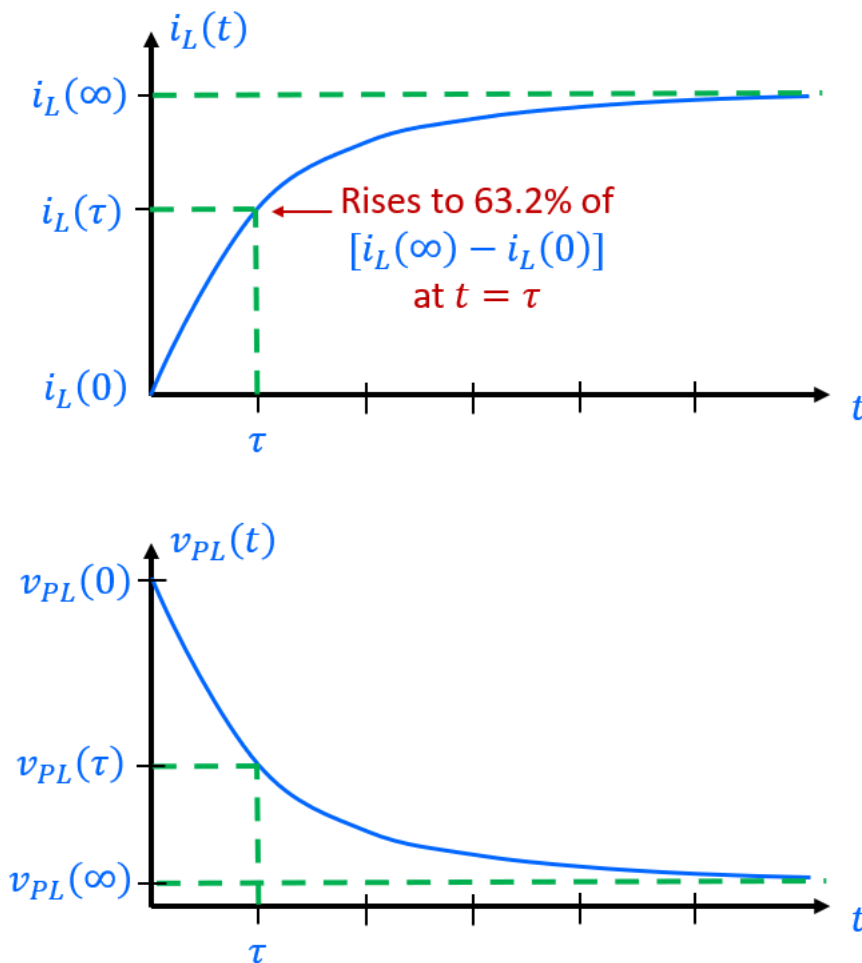

Figure 2: current $i_L(t)$ and practical inductor's voltage $v_{PL}(t)$ w.r.t. time t .
- Figure 2 below shows how the current $i_L(t)$ and the practical inductor's voltage $v_{PL}(t)$ change w.r.t. time for $t \geq 0$. Show that $v_{PL}(\tau) = V_S - R \frac{0.632 V_S}{R + R_L}$.
12. Next, drag the horizontal orange cursor to the level of the calculated $v_{PL}(\tau)$. Use the vertical cursors to measure the time constant τ (refer to the $v_{PL}(\tau)$ graph in Figure 2). You can assume that time $t = 0$ starts from the moment the yellow line shoots above 0 V. Time $t = \tau$ is the point where the green line falls back to $v_{PL}(\tau)$. Figure 5 below shows an example of how τ is measured.